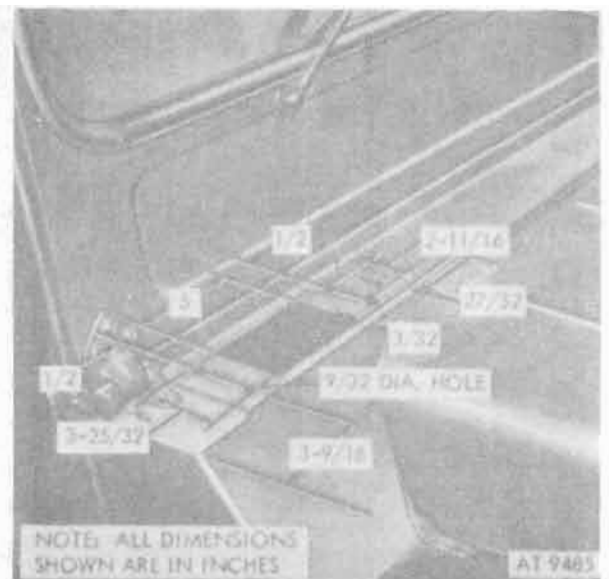

Figure 18-63. Cowl top panel drilling.
- a. Locate and drill four 9/32-inch diameter holes in cowl top panel (fig. 18-63).
- b. Locate and cut out 5x3-25/32 opening in cowl top panel (fig. 18-63).